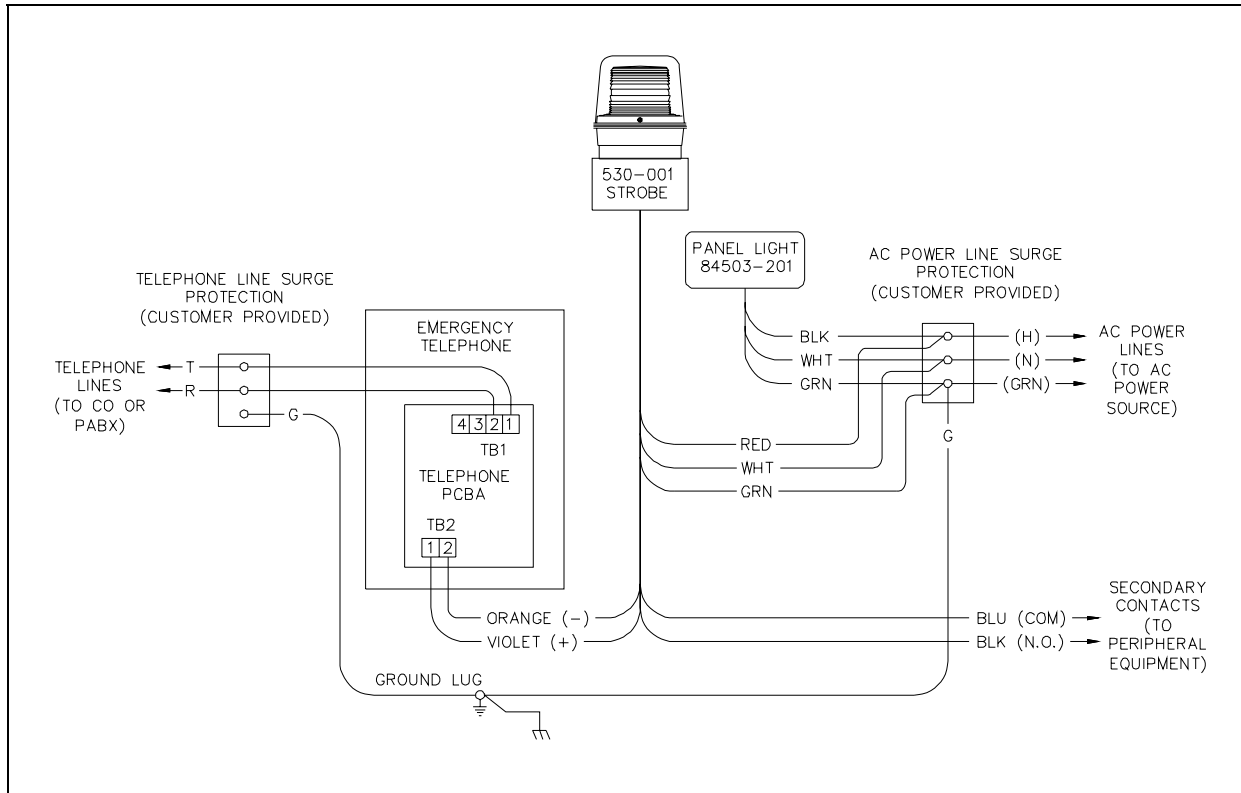
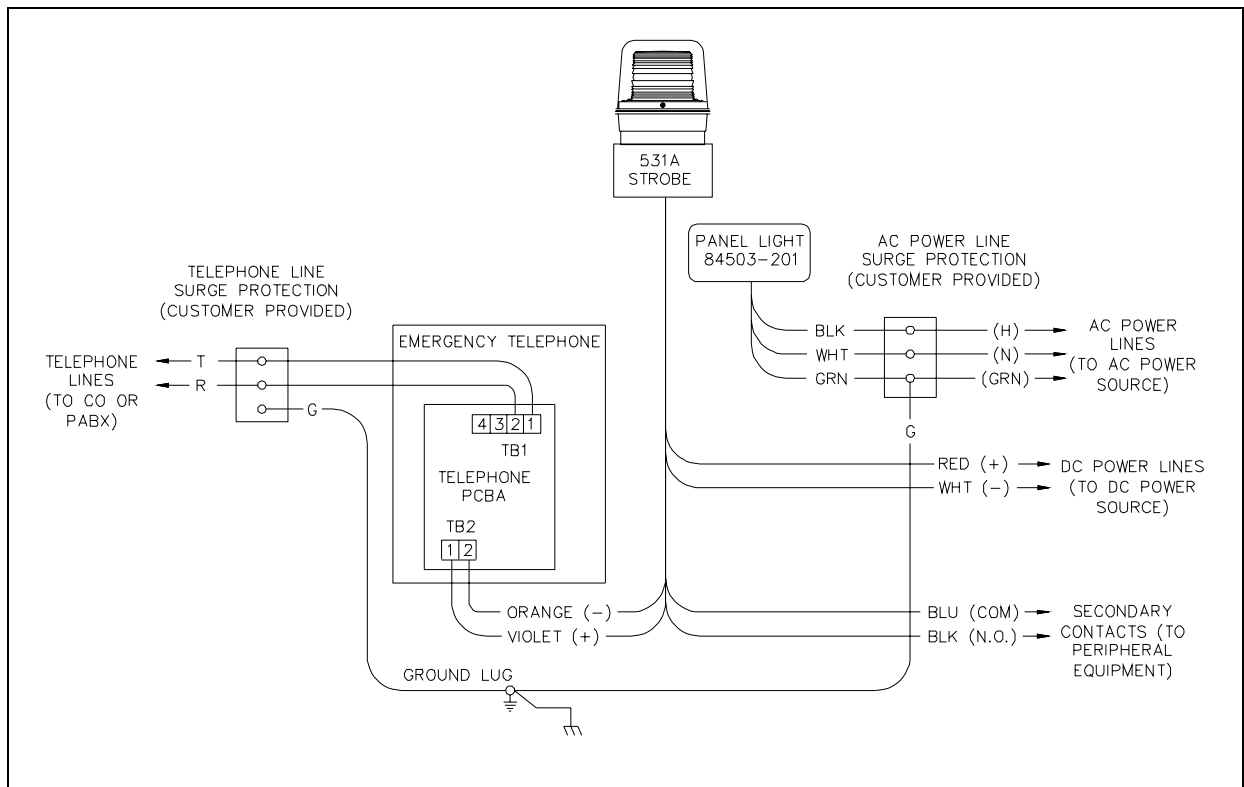

Figure 9. Interconnection Diagram with AC-Powered Strobe
Figure 10. Interconnection Diagram with DC-powered Strobe
3. Connect the incoming ac power line to the surge protection as shown in Figure 9.
4. Connect the red, white, and green wires of the Model 530-001 AC Strobe to the surge protection as shown in Figure 9. When using the Model 531A DC Strobe, connect the red and white wires to the dc power source as shown in Figure 10.